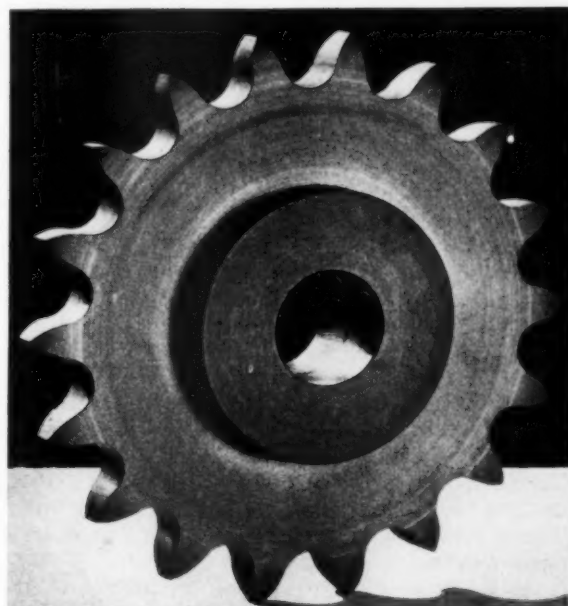

Fig. 22—Sprocket wheel molded from Enrup has exceptional abrasion resistance and requires no center bearing
A new synthetic, Enrup, has a variety of forms ranging from elastic to rigid with outstanding impact strength, Fig. 22. It is expected to help fill the wide gap between the softer range of rubbers and synthetics covered in this article and the hard rubber (thermosetting plastic) mentioned in the previous discussion, Part 51.
U. S. Rubber Co. (Fig. 22) New York, N. Y.